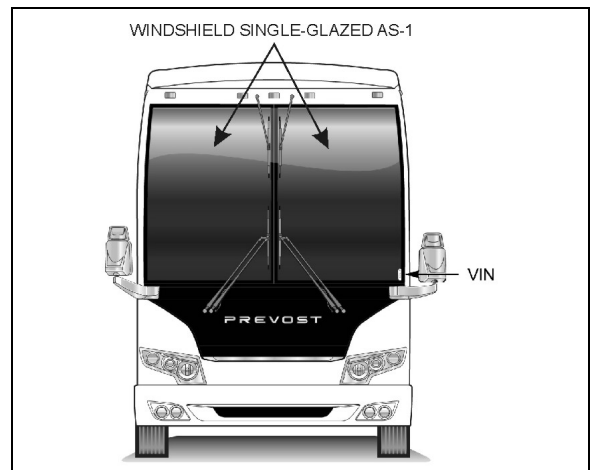

FIGURE 52: WINDSHIELD 18495A
6. Confirm that both latches are in the closed (latched) position. The upper edge of the latch opening must be aligned with upper edge of the sash opening (Figure 52)